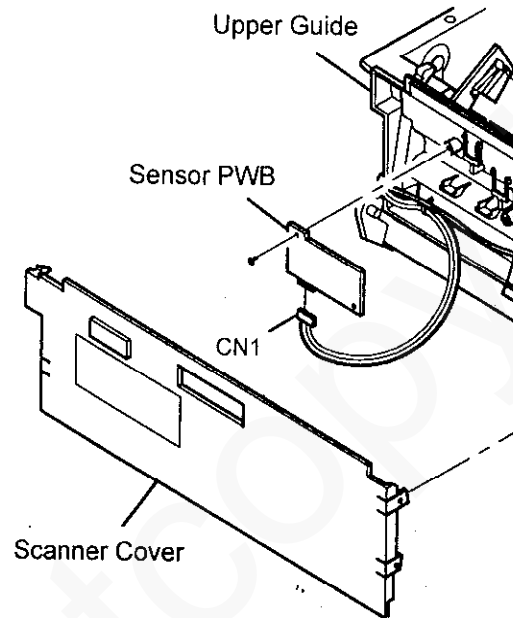

Figure 1 Removing the
2. Remove the Scanner Cover from the Upper Guide (Figure 1).
3. Remove the Sensor Board PWB Assembly (Figure 1).